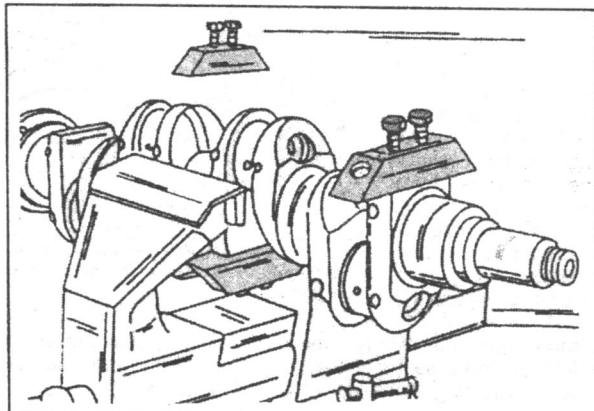

Fig. 1.24. — The crankshaft counter weights are secured to the crankshaft as shown. Mark each counter weight for installation position before removal.
- If work is to be carried out on the crankshaft remove the counter weights. These are attached as shown in Fig. 1.24. Plugs are fitted to the crankshaft throws and can be removed with an Allen key of suitable size to clean the oil galleries. In the end of the crankshaft (flywheel side) you will find a pilot bearing for the clutch shaft. A puller is required to withdraw the bearing.